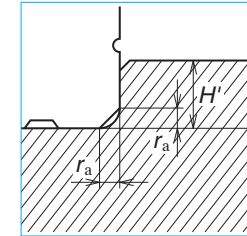

Fig. 10.10 Shoulder for the rail datum surface
- Figs. 10.10 and 10.11**, show shoulder height of the mounting surface of the machine base and the size of corner radius. These figures are relevant when the linear guide is pressed to the shoulder of the machine base or table (the raised section from where the mounting surface begins), and horizontally secured to it. Recommended sizes are shown in "Shoulder height and corner radius r" for each model.